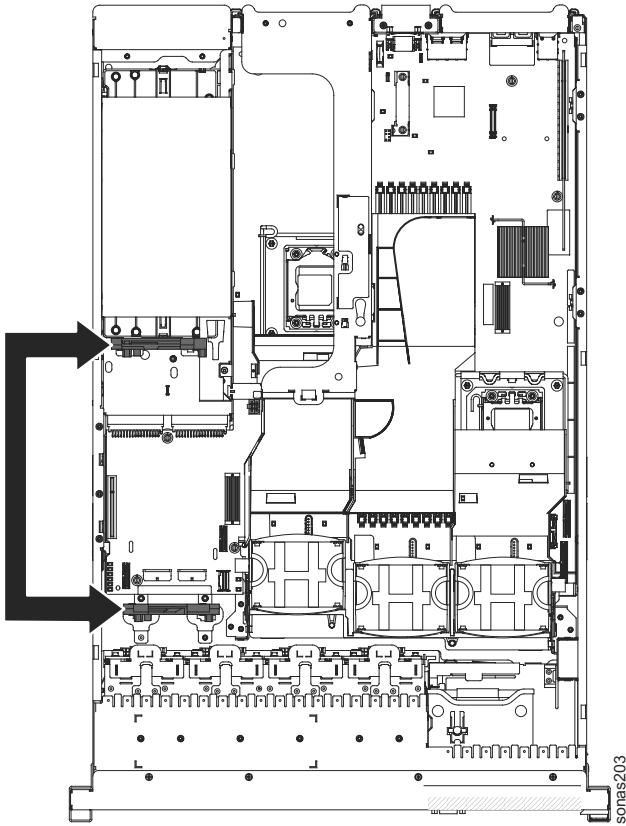

Figure 23. Controller retention brackets on 16-drive-capable server model
- a. If you are replacing a ServeRAID-BR10il v2 SAS/SATA controller with a ServeRAID-M5015/M5014 SAS/SATA controller, you must swap the controller retention brackets to fit the new SAS controller. See Figure 23 on page 110.